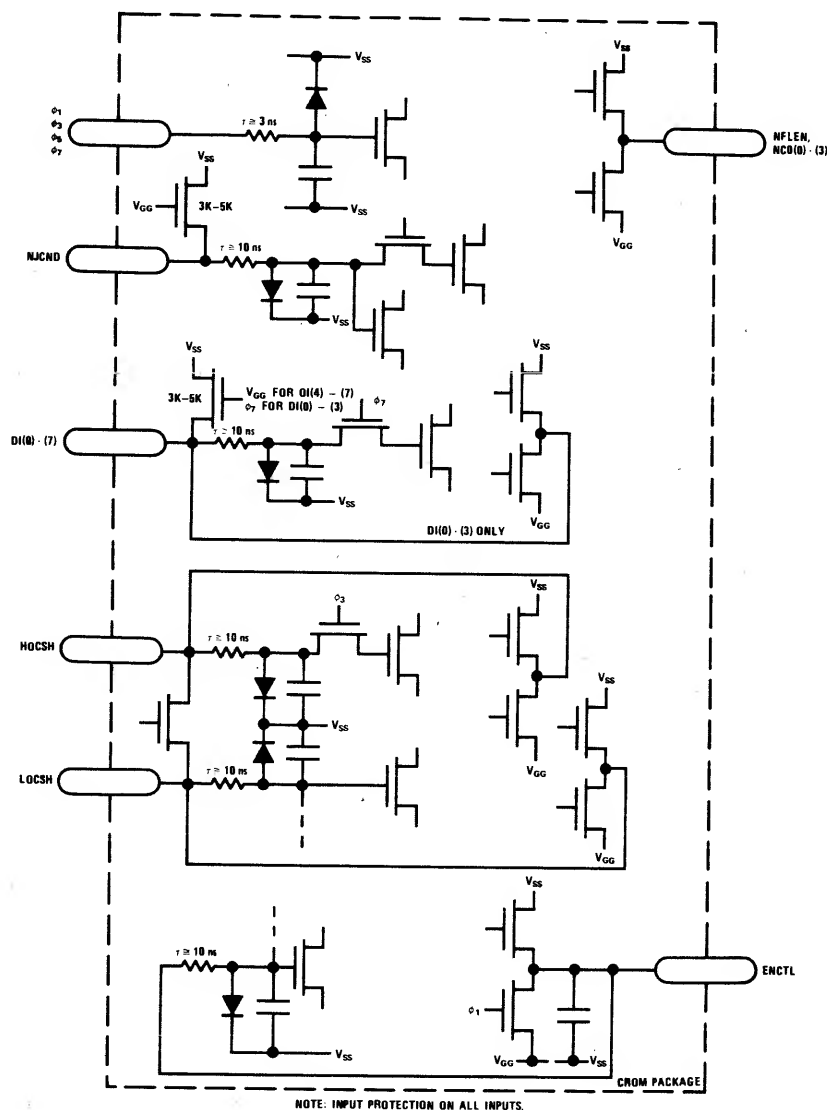

FIGURE 3. CROM Driver and Receiver Buffer
Note 1: Internal pullup provided for TTL inputs. Refer to Figure 3 and text.
Instructions to the CROM are transferred over the data input lines (DI(0) - DI(7)) into bits 0 - 7 of the CIR. (Bit 8 of the CIR is loaded from the NJCND input.) Data input occurs at T₇. As with all TTL inputs on the CROM a 3k - 5k pull-up is provided on the chip to insure an adequate logic "1" level (see Figure 3). The pull-up is provided by an MOS transistor which is turned on during the data input interval (T₇). Signal lines DI(0) - DI(3) are also used to output a 4-bit address to the control flags and jump conditions. This address output becomes valid during T₁ and must be stored in an external latch at the end of T₁.